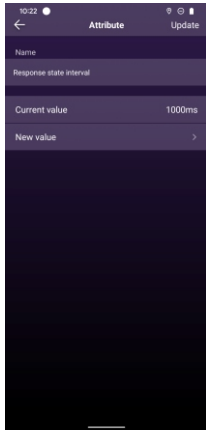
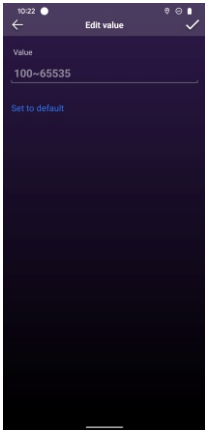

Figure 25
Figure 26
16. The attribute **“Response state interval”** is to set the time interval to report the sensor state. Tap it to enter setting interface, **“Current value”** means current interval, **“New value”** is to set a new interval, available setting range is 100~65536mS, factory default is 1000mS. Once set a new value, tap **“Update”** button at upper right corner to save the setting (as shown in **Figure 25 & Figure 26**).